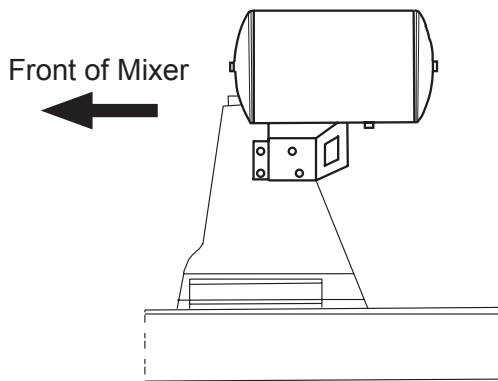

Figure 4: Bolt new air tank to rear pedestal.
11. Apply Loctite #242 (P/N 65270AX) onto each of the new (4) bolts (P/N 117971A).
12. Bolt the new air tank onto the rear pedestal (Figure 4 illustrates placement of the tank on the rear pedestal).